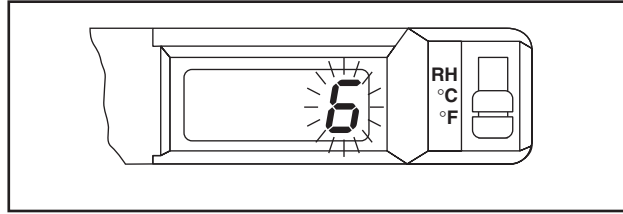

Figure 5-4. Blinking Temperature Code
8. A single character **temperature calibration code** should be blinking in the display. Refer to Figure 5-4. If it is not, press the "SET" button again.